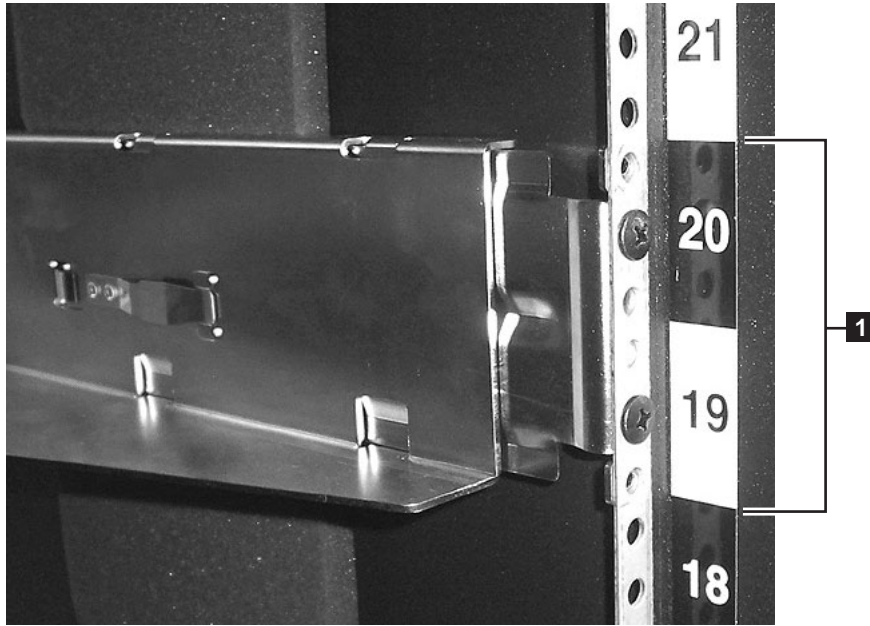

Figure 2. Install the rails
- d. Using the screws for your rack type, secure the back and front of the rails to the rack as shown in Figure 2 on page 6.